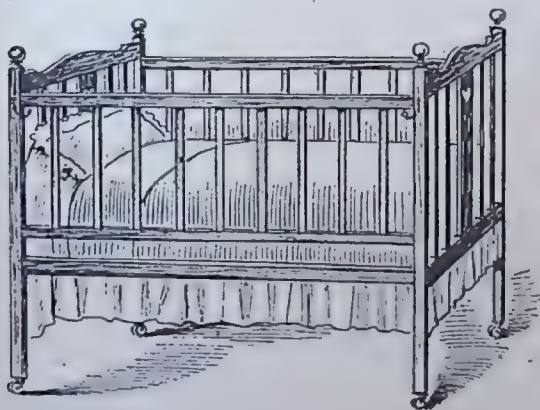
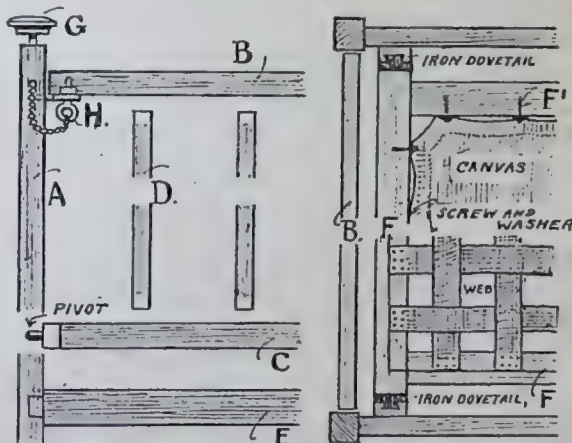

FIG. 1.—PERSPECTIVE VIEW OF COT.
FIG. 2.—DETAILS OF FITTING.
UPRIGHTS.—Proceeding to make a start with the cot, the uprights or posts (A, Fig. 2) will require four lengths 3 feet 6 ins. by 1½ in. by 1½ in. They are shown in Fig. 1 as with the upper 2 ins. turned, but if the worker has not access to a lathe the posts can be fitted with moulded caps (Fig. 2, G) 2½ ins. by 2½ ins. by ¾ in., which should be dowelled and nailed into position to prevent them twisting out of the square. If not fitted with iron dovetails
TOP SIDE RAILS (B) can be got out from pieces 4 feet long, to finish 1½ in. wide by 1 in. net thick, each mortised to receive tenons on nine bars. The ends of these top rails should be ferruled or banded with sheet brass about 1 in. wide as provision against splitting. No tenons are required on one of the rails, as this when up is kept in position by a brass screw-eye and chain attachment (Fig. 2, H).
MATTRESS RAILS.—As seen in Fig. 2 (right hand sketch) the mattress rail F is dovetailed to the lower rails of ends on the side where the rail B falls, but the dovetails can be fitted to the posts of the opposite fixed side. The rails F¹ are tenoned in each end, and are the same thickness and width as F.
THE TOP END RAILS, shaped as at Fig. 1, can be got out of pieces 3 ins. wide by 2 feet long to finish preferably 1 in. net. They can be tenoned or doweled each end to enter posts, and will also be shallow-mortised to receive the bars and panels.